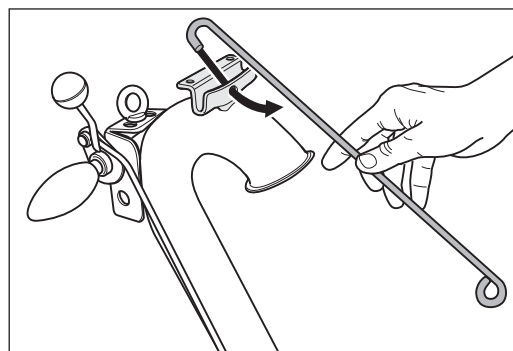

Fig. 6 Hook the cable support into the bracket at the guide tube.
- 6 Hook the cable support into the bracket at the top of the guide tube (Fig. 6)